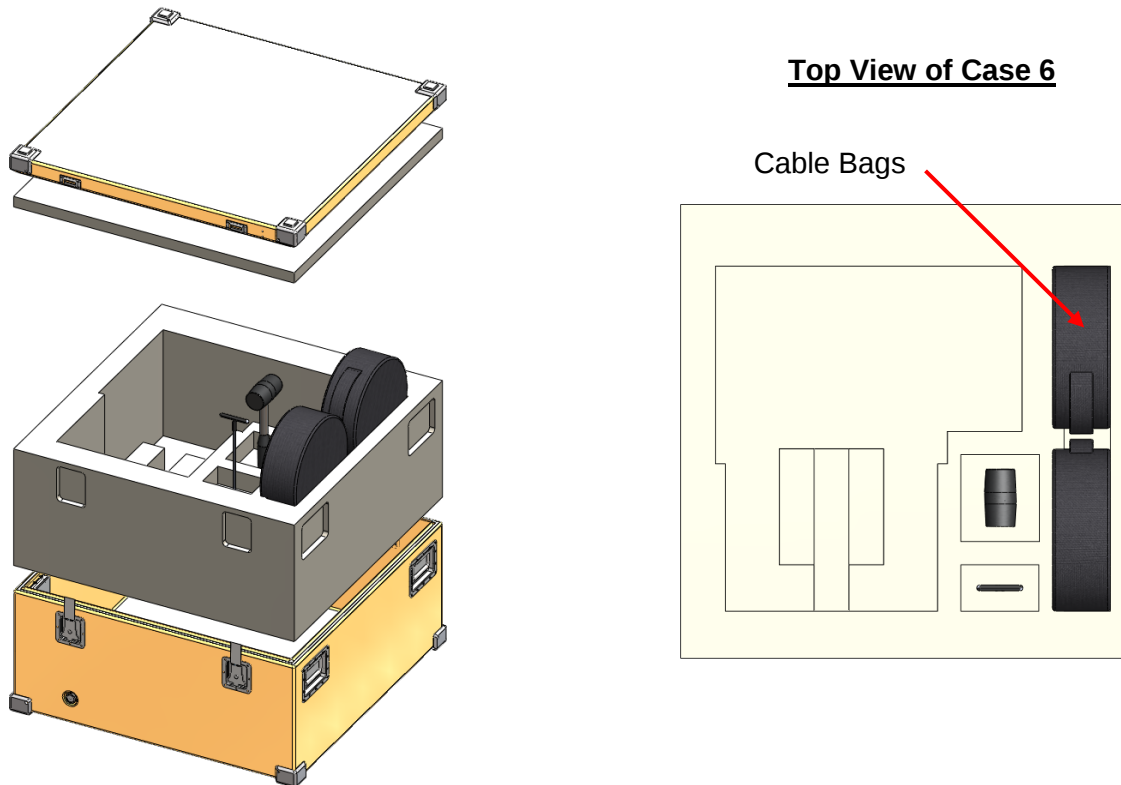

Figure 46. Case No. 6 Pack-Up, Cable Bags
16. Disconnect the two GPS TNC jumper cables form the GPS antennas and place in Case 6 cable bags as shown in Figure 46.
18. Remove the feed wiring bundle from clips attached to the feed boom and place in Case 6 cable bags as shown in Figure 46.